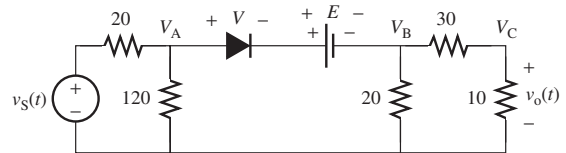

FIGURE P8.20 Voltage limiter.
8.20(H)* Find $v_o(t)$ with respect to $v_S(t)$ for Figure P8.20 if $E = 2.3$ V.